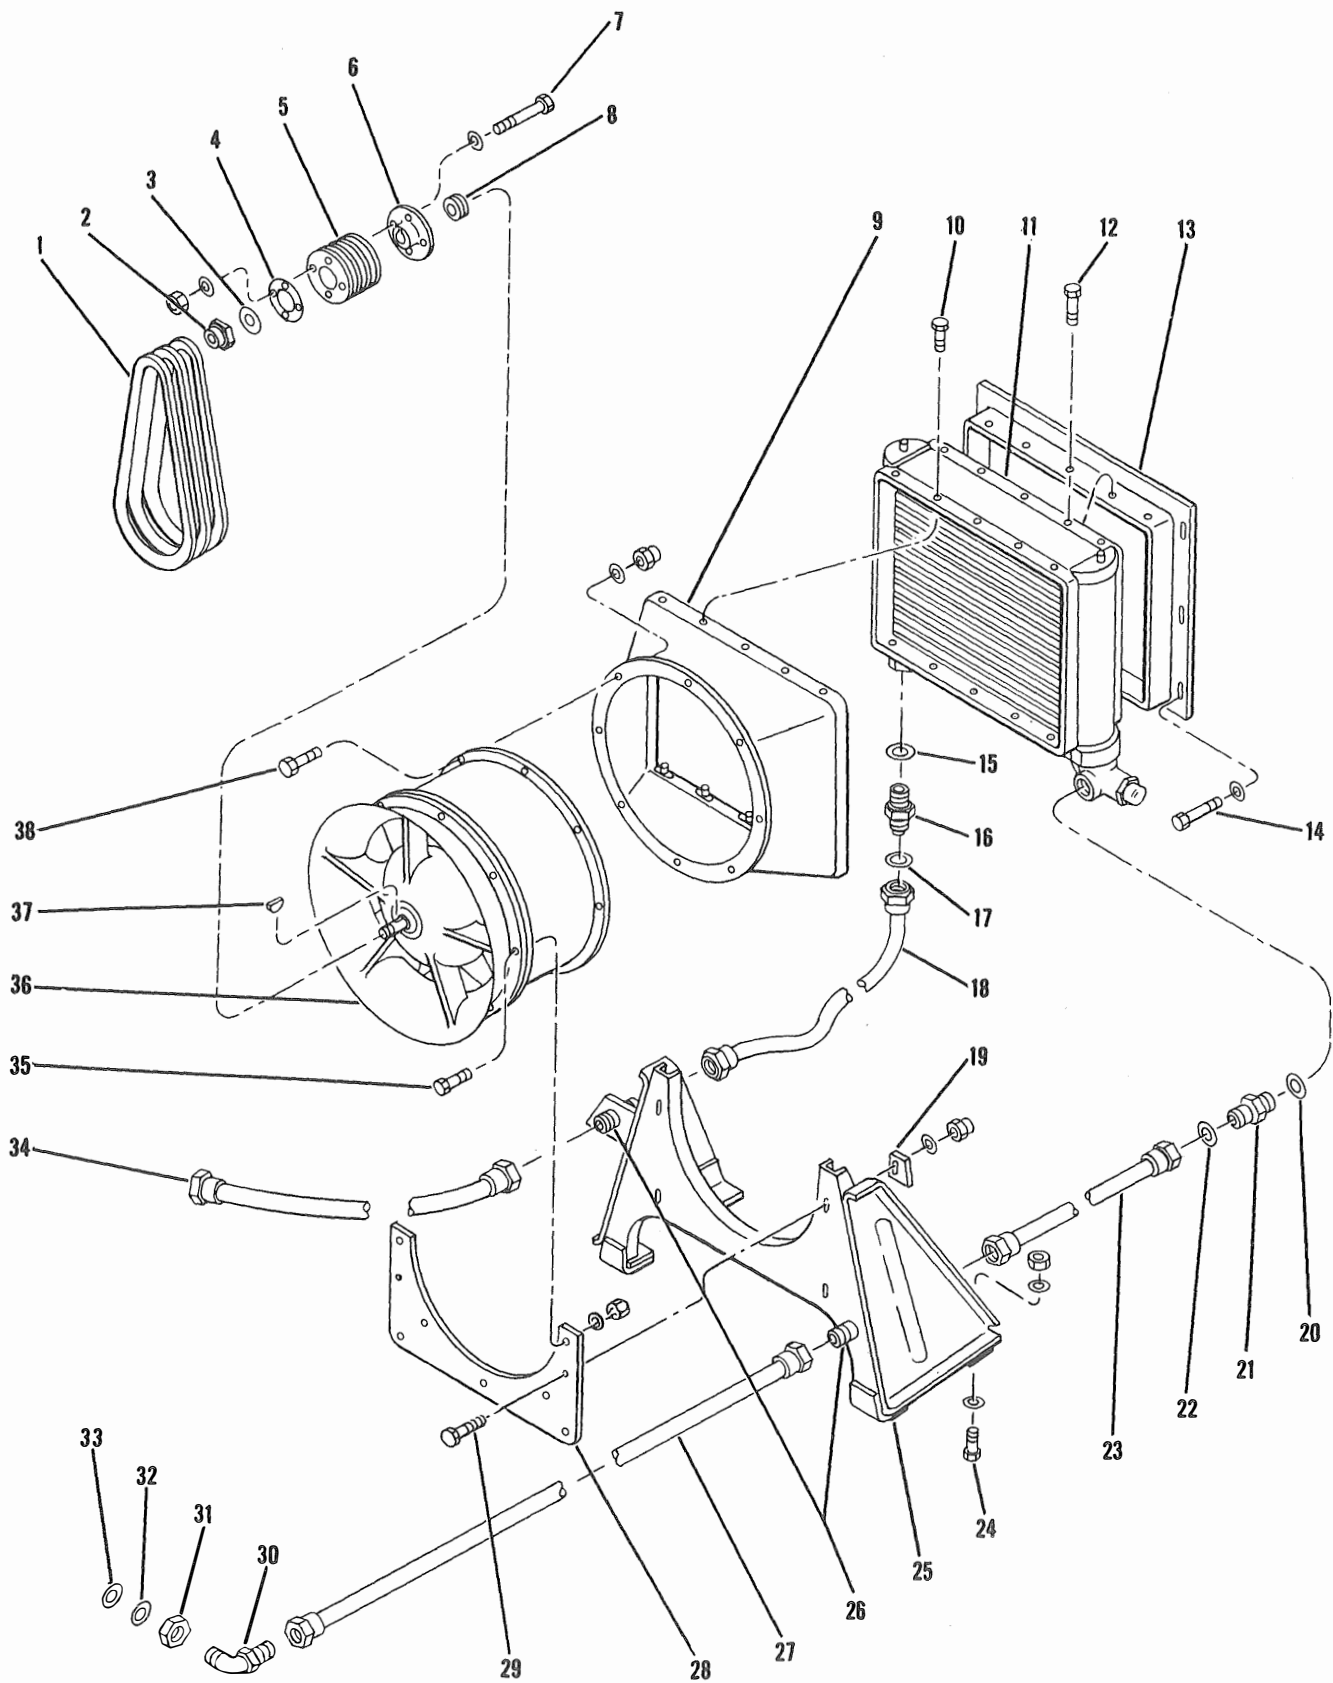

Figure 5-48. Main Gear Box Oil Cooler and Blower Disassembled
c. Disconnect the oil lines (27 and 34, figure 5-48) at the quick disconnects (26) at each side of the oil cooler assembly. Plug the lines if removal of the lines is not necessary.
d. Remove the adjustment bolts (29) which secure the plate (28) to the front support assembly and free the three belts (1) from the pulley (5) on the fan assembly (36).
e. Support the oil cooler assembly and remove the bolts, nuts and washers (12) which attach the aft end of the cooler to the radiator support (13) and lift the cooler and blower assembly out of the helicopter with the plate (28) attached. Separate the adjustment plate (28) from the blower by removing the bolts, washers and nuts (35).
f. Disconnect and remove the oil line (34) from the inlet fitting on the gear box and the oil line, elbow (50), gasket (32), nut (31) and ring (33) from the oil pump. Plug the inlet fitting at the gear box and the port in the oil pump.
g. Remove the bolts, washers, and nuts (24) which secure the support assembly (25) to the transmission deck.
a. Remove the bolts (10, figure 5-48) which secure the oil cooler (11) to the duct (9). Remove the cooler.
b. Remove the bolts, washers and nuts (38) which connect the duct (9) to the fan assembly (36).
c. Disconnect and remove the oil lines (18 and 23) from the fittings (26) on each side of the oil cooler. Remove the unions (16 and 21) and gaskets (15, 17, 20 and 22).
d. Remove the pulley assembly from the blower shaft by removing the nut (2), washers (3), pulley (5), key (37) and shim (8). Remove the bolts (7) and separate the plate (4) and flange (6) from the pulley (5).
a. Apply sealer compound (index 18, paragraph 1-32) to the mating parts and install the bolts (10, figure 5-48) which attach the cooler (11) to the duct (9).
b. Position the fan assembly (36) on the duct (9) and install the bolts, washer and nuts (38) attaching them together.
c. Install the unions (16 and 21) into the oil cooler (11) and connect the lines (18 and 23) which lead to the quick disconnects (26).
d. Secure the flange (6) and plate (4) to the pulley (5) with the bolts and nuts (7). Position the shim (8) and key (37) on the blower shaft and secure the pulley assembly with the washer (3) and nut (2).
a. Position the support assembly (25, figure 5-48) on the transmission deck and secure it with the bolts, washers and nuts (24). Tighten the bolts to 75 inch-pounds torque.
b. Secure the adjustment plate (28) to the blower (36) with the bolts, washers and nuts (35). Position the oil cooler and blower on the front support (25) and install the adjustment bolts (29), washers and nuts.
c. Apply sealer compound (index 18, paragraph 1-32) to the mating parts, position and support the complete assembly in the helicopter and install the bolts (12, figure 5-48) which attach the aft end of the cooler to the radiator support (13).
d. Loop the upper end of the three vee belts (1) over the pulley (5).
Key to Figure 5-48
a. To correct forward and aft misalignment of the driving and driven pulleys, change the thickness of shim (8, figure 5-48) on the fan shaft.
b. To tighten the belts (1), loosen the bolts (35) which secure the plate (28) to the front support (25) and the screws (14) attaching the radiator support (13) to the bulkhead, raise the oil cooler and blower assembly until the belts deflect 1/2 to 3/4-inch midway between pulleys with a load of 10 ± 1/2 pounds. Tighten the bolts in the slotted holes.
a. Loosen the bolts (34, figure 5-48) which secure the plate (28) to the front support (25), lower the forward end of the fan assembly and pull the belts off the driven pulley (5).